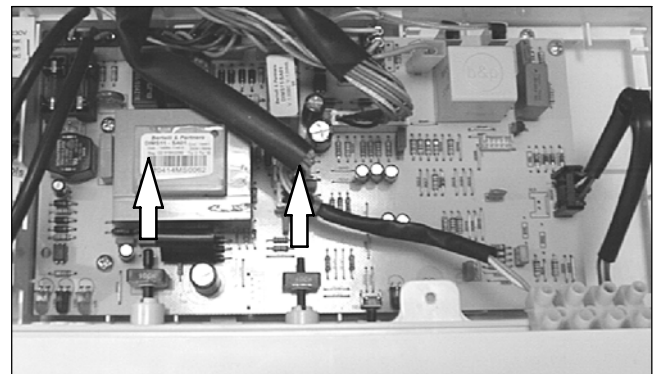

Fig. 41
- 3 Remove the spindles of the c.h. and d.h.w. temperature adjustment knobs by delicately pulling them with pliers in the direction shown by the arrow in Fig. 41.